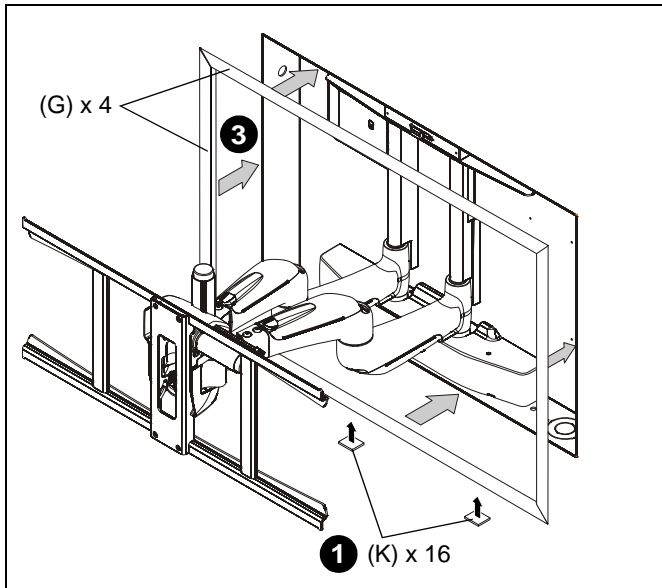

Figure 7
1. Remove paper covering adhesive and affix three tape squares (K) to inside lower flange of each trim piece (G). (See Figure 7)
2. Orient trim pieces (G). (See Figure 7)
3. Remove paper covering adhesive back from tape squares (K) on trim and press trim (G) against inner wall of box. (See Figure 7)